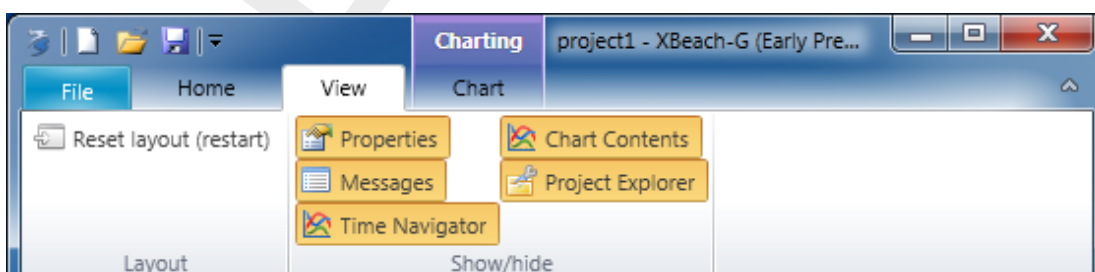

Figure 3.10: Overview of the available buttons in the View tab
- ◇ **View** - This tab offers buttons for all available toolwindows to toggle the current visual mode (visible / hidden) of the toolwindows in the GUI (Figure 3.10)